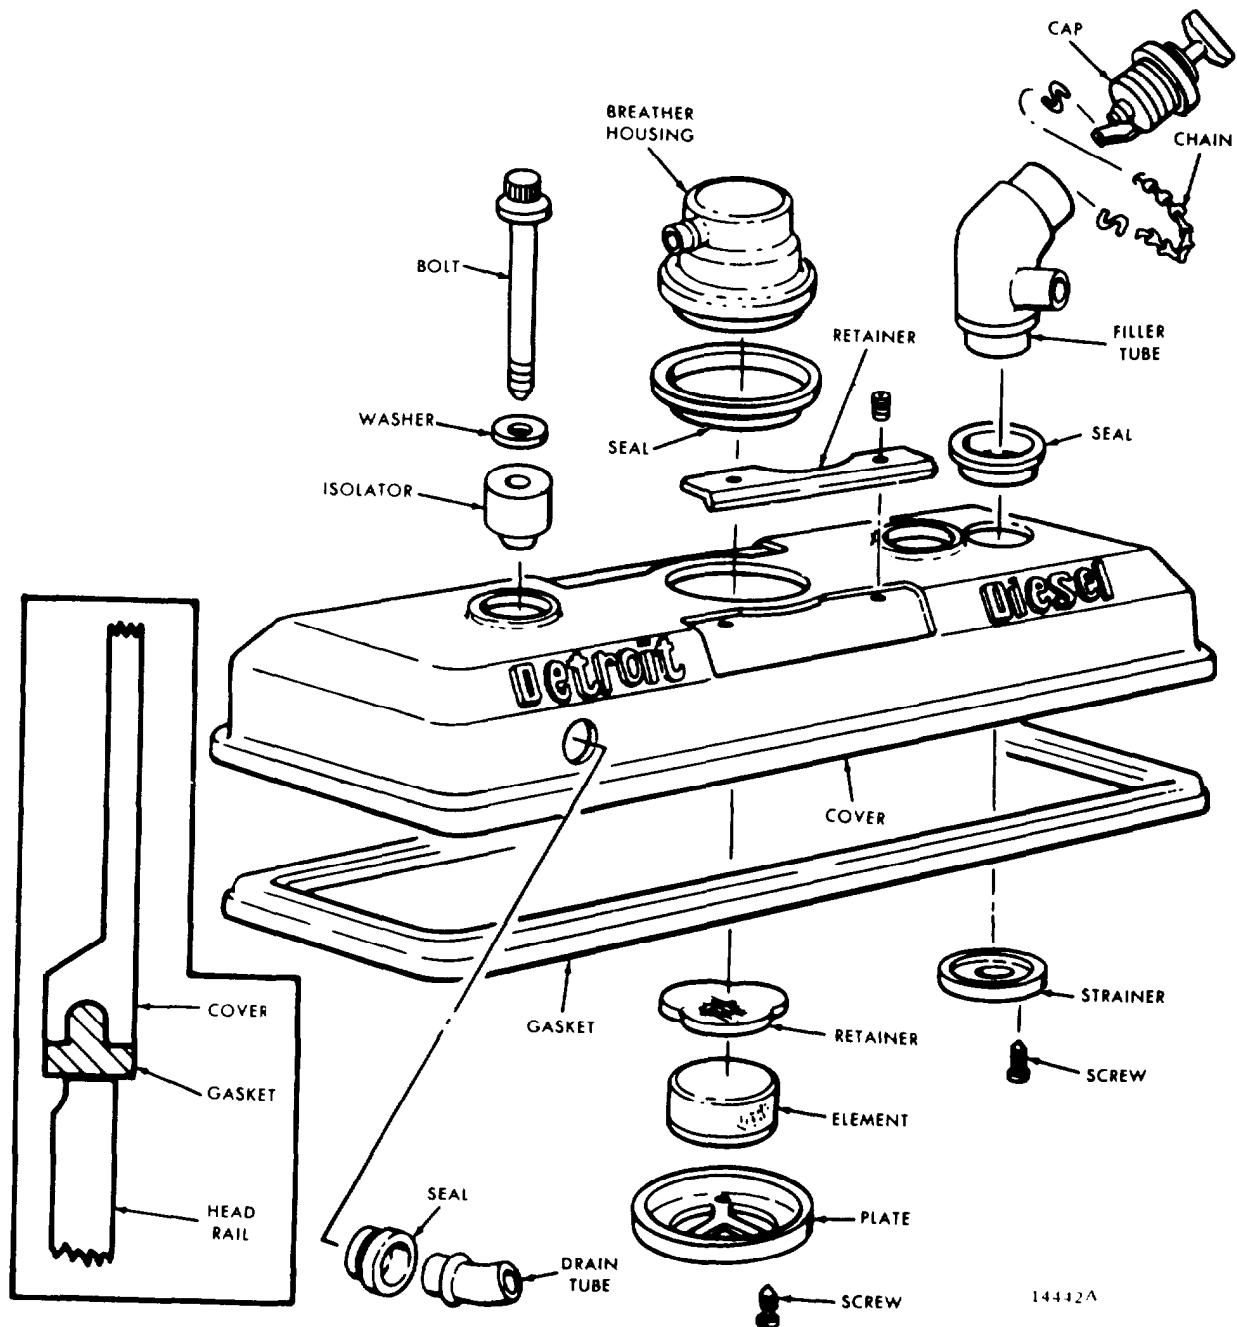

Figure 11B-69. Valve Rocker Cover Assembly
2. Press the stem side of the new Y shaped gasket down into the groove at the four corners of the cover first. Then press the remainder of the gasket into place in the groove (see Figure 11B-69 on page 11B-45). Be sure the stem of the entire gasket bottoms in the groove.